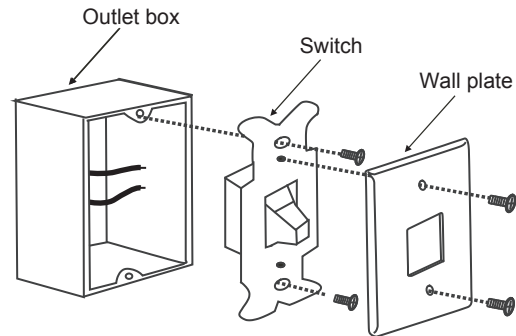

Fig. 4
- a. Remove the existing wall plate and switch from the wall outlet box. (Fig. 4)